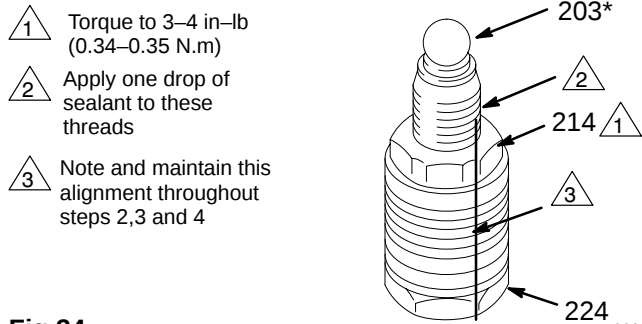

Fig 34
2. Tighten the packing retaining nut (214) against the gland (213) and torque to 3–4 in-lb (0.34 – 0.35 N.m). See Fig 34.
3. Apply *1 drop only* of sealant, supplied with the repair kit, to the piston valve threads. Place the small ball (203*) on the valve. See Fig 34. Hand tighten the valve into the rod (223) just until the nut contacts the rod. Place the flats of the displacement rod in a vise.